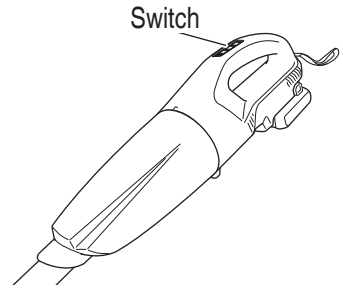

Fig. 19
- Switch on the appliance (**Fig. 19**)